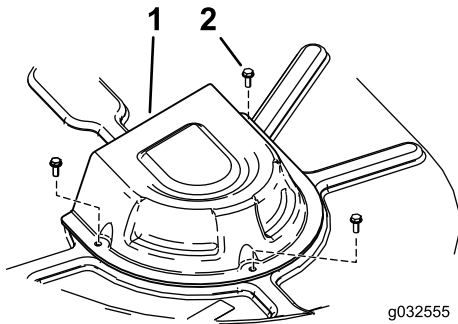

Figure 68
4. Remove the pulley covers (Figure 68).
8. Install the pulley covers (Figure 68).